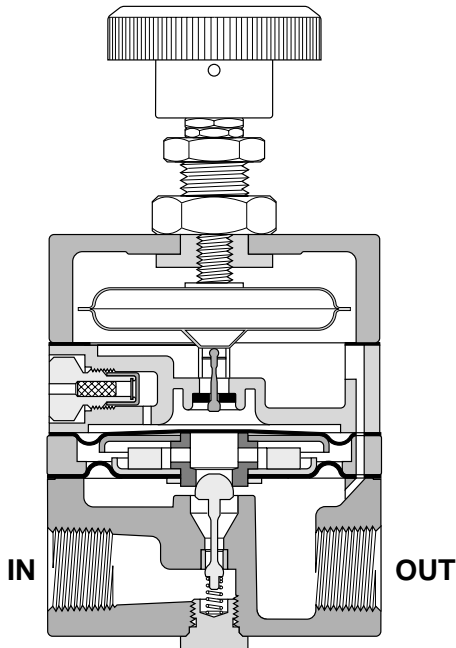

Figure 1
1. Turn the control knob (A) fully counterclockwise. Remove upstream air supply.
2. Remove four screws (B) holding the bonnet (A) in place. Remove bonnet assembly, gasket (C), balance control assembly (D), spring (E), protector diaphragm (F), diaphragm housing (G), and control diaphragm (H). Discard gasket (C), protector diaphragm (F), and control diaphragm (H).
3. Remove bleed screw (M) and discard.
4. Remove spring retainer (L) and spring (K).
6. Install spring (K) and spring retainer (L) into body making sure that the spring is installed correctly, see Fig. 1. Tighten spring retainer 2.6 to 3.1 Nm (23 to 27 in-lbs).
7. Place the new control diaphragm (H) onto the body (K). Put diaphragm housing (G) on next followed by the new protector diaphragm (F) and spring (E). Put balance control assembly (D) on next then the new gasket (C) followed by bonnet assembly (A) and reassemble the four screws (B). Tighten screws 3.2 to 3.6 Nm (28 to 32 in-lbs) in progressive steps using a crisscross pattern.
8. Install new bleed screw (M). Tighten screw 1.5 to 1.9 Nm (13 to 17 in-lbs) in progressive steps using a crisscross pattern.
9. Admit inlet pressure and turn the adjusting knob (A) to obtain the desired pressure.